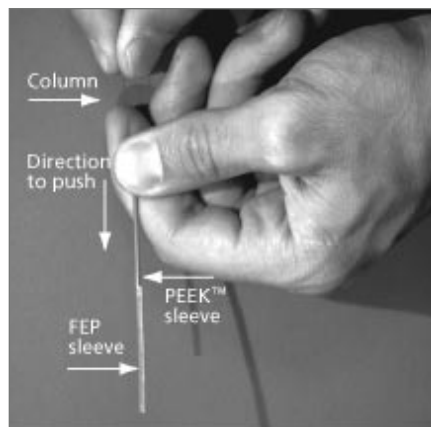

FIGURE 3 Sliding the PEEK™ sleeve
- Slide the PEEK sleeve towards the frit end until it butts up against the FEP sleeve as shown in Figure 3.